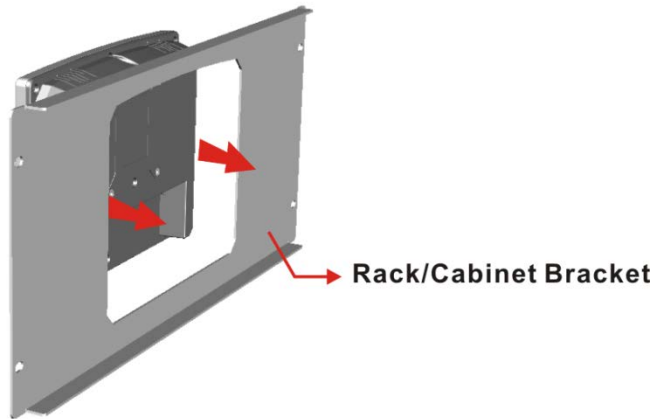

Figure 3-23: The Rack/Cabinet Bracket
Step 1: Slide the rear of the PPC-FxxC-Q370 panel PC through the rack/cabinet bracket until the aluminum frame is flush against the front of the bracket (**Figure 3-23**).